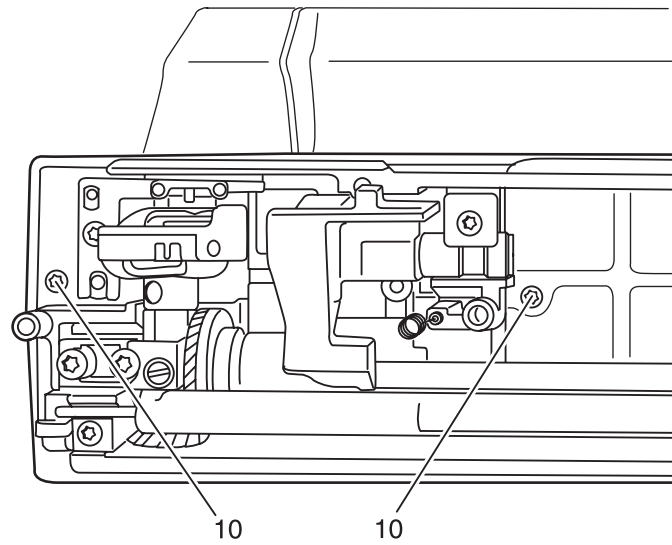

Fig. 7
- Unscrew and remove both fastening screws 10 (fig. 7).